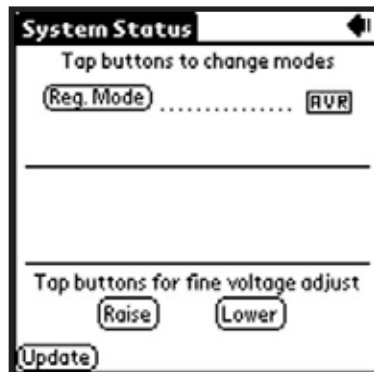
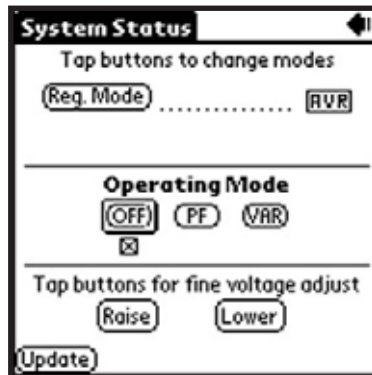

Figure 6-22. System Status Without Operating Mode Screen
Figure 6-23. System Status With Operating Mode Screen
The System Status Without Operating Mode Screen shown in Figure 6-22 is accessed from the Main Screen (Figure 6-14) by tapping the arrow on the Other Pages: line and then tapping System Status. The System Status Screen displays the current mode setting.
If the Var/PF option is installed, the Systems Status Screen may be different than that of Figure 6-22. This is illustrated in Figure 6-23, System Status With Operating Mode Screen. The Operating Mode segment of the System Status Screen (Figure 6-23) has three buttons labeled OFF, PF and VAR. A box around the Operating Mode's OFF, PF and VAR buttons indicates which mode is selected. A checked box below the buttons indicate which of the three modes the DVR®2000E is currently operating in. The figure also shows that the selected operating mode is VAR while the DVR®2000E is operating in OFF (AVR mode). Tapping the PF button places the DVR®2000E in the power factor operating mode and causes a checked box ( ) to appear below the PF button. Tapping the VAR button places the DVR®2000E(C) in the VAR operating mode and causes a checked box to appear below the VAR button. Tapping the OFF button disables both power factor and var regulation and places a checked box below the OFF button. The example of Figure 6-23 shows that power factor and var regulation are disabled.
Fine adjustments to the operating setpoint are made by tapping the Raise and Lower buttons of the System Status Without Operating Mode Screen (Figure 6-22). (The fine adjustment through the front panel push buttons only controls the voltage setpoint.) An arrow serves as a reminder of which button was last tapped. In AVR mode, a single tap of the Raise or Lower buttons increments or decrements the generator voltage by 0.1 volts and the